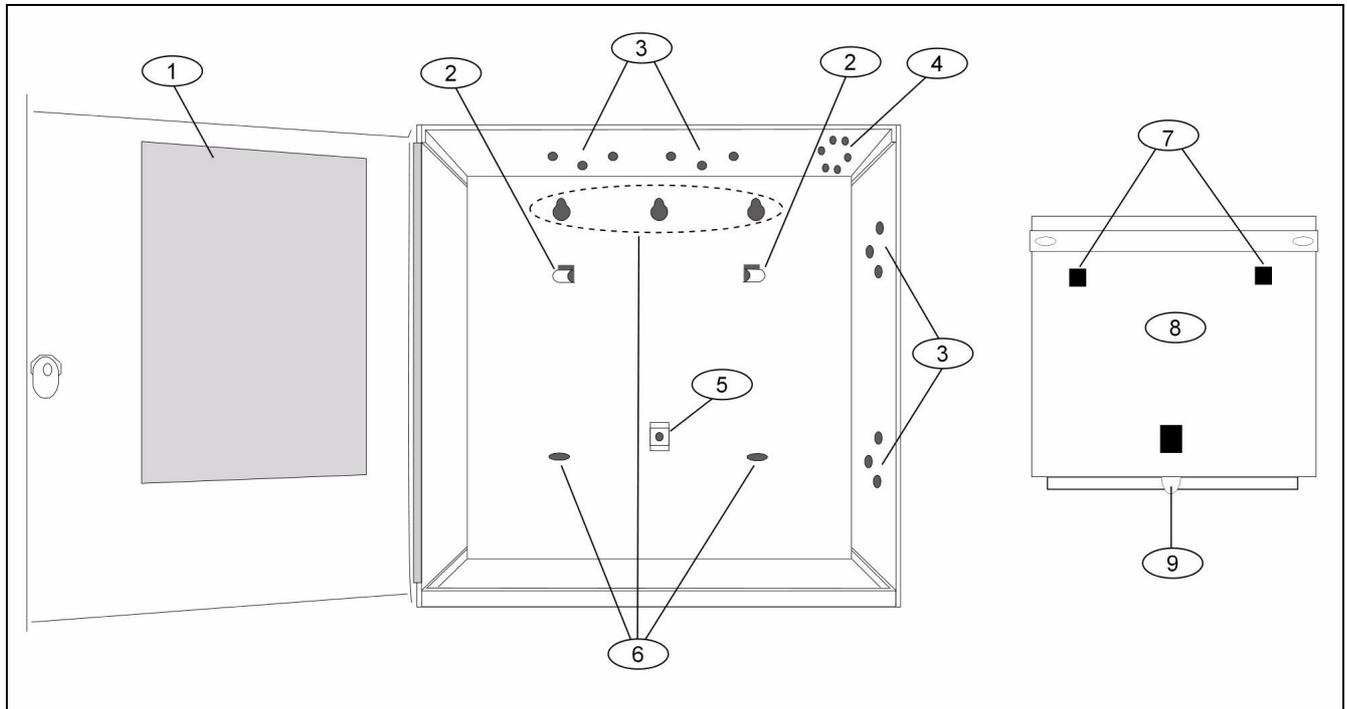

Figure 1.1 Enclosure Mounting
2. Mount the enclosure in the desired location. Use all five enclosure mounting holes. Refer to *Figure 1.1, Page 5*.
- Place the control panel over the inside back of the enclosure, aligning the large rectangular openings of the mounting skirt with the mounting hooks of the enclosure. Slide the control panel down so that it hangs on the hooks. Refer to *Figure 1.1, Page 5*.